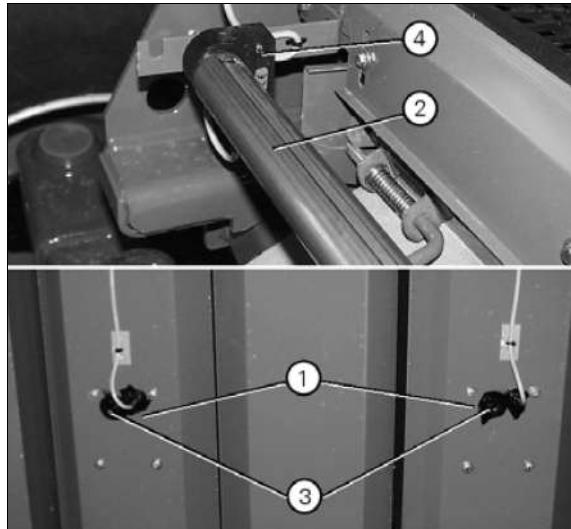
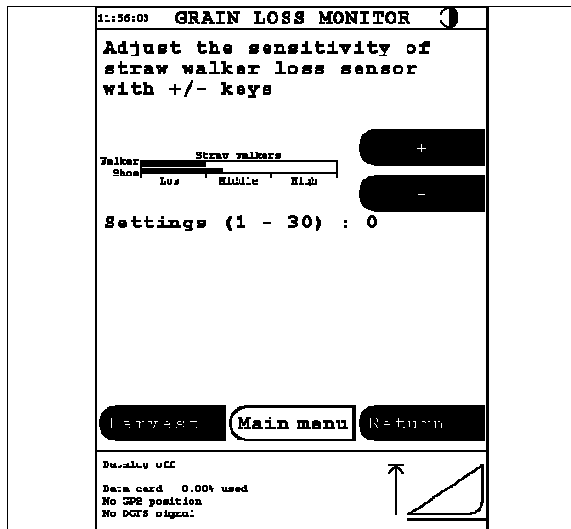

Fig. 1.
Fig. 2.
(fig. 1 og fig. 2)
Prior to the adjustment of the grain loss monitor indication on the screen, the plate sensors (1) in the straw walkers and the tubular sensor (2) must be adjusted to the current crop. This is done with the switches (3) and (4), (fig. 1), providing adjustment possibilities for small, normal and large grains, respectively.
The screen picture for adjustment of grain loss monitor can be called up from the menu "Coding | Grain loss monitor | Straw walkers" and the bar for straw walkers, (fig. 2) can be adjusted into the medium range using the "+" or "-" key. This adjustment does not change the sensitivity of the loss sensors, but only the indication on the bar.